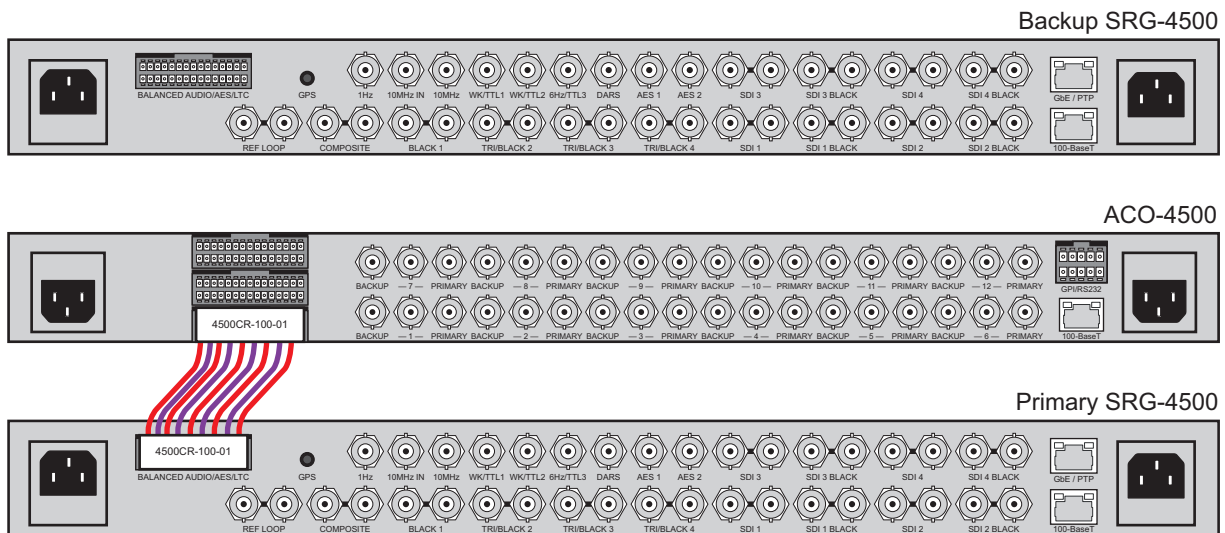

Figure 5.1 Connecting the Primary SRG-4500 to the ACO-4500 Rear Panel
2. Connect the other end of the same Interface Cable to the **bottom** 30-pin Connector on the ACO-4500 rear panel. Refer to **Figure 5.1**.